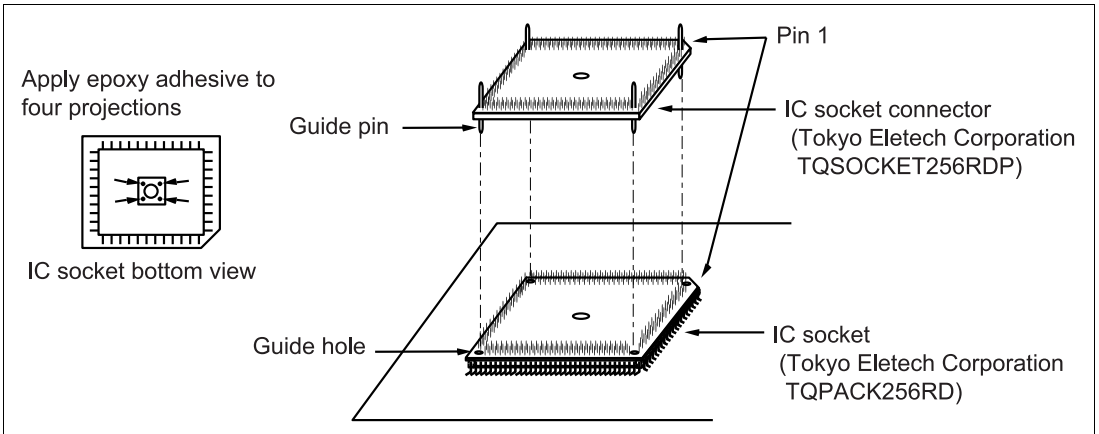

Figure 2 Installing IC Socket to User System
1. Solder the IC socket for an FP-256H package to the user system (figure 2).
2. After checking the location of pin 1 on the IC socket connector and pin 1 on the IC socket, align the guide pins on the IC socket connector with the guide holes on the IC socket, and insert the IC socket connector into the IC socket (figure 2).